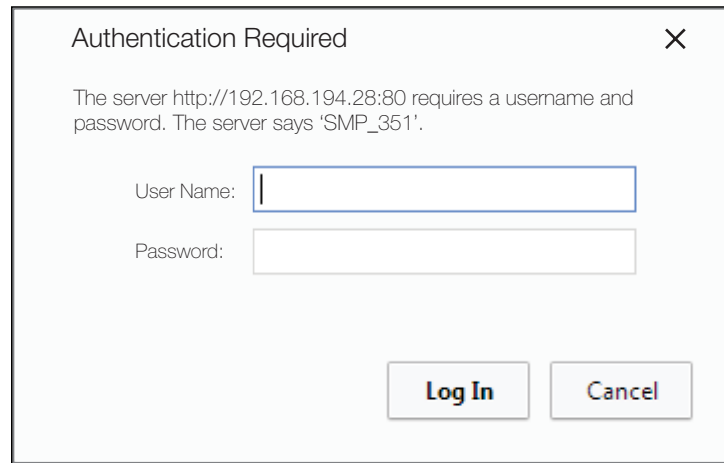
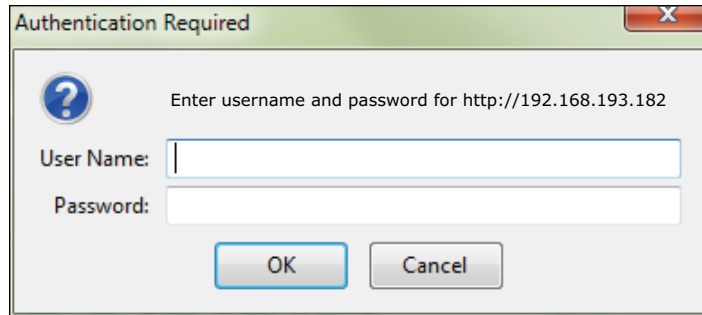
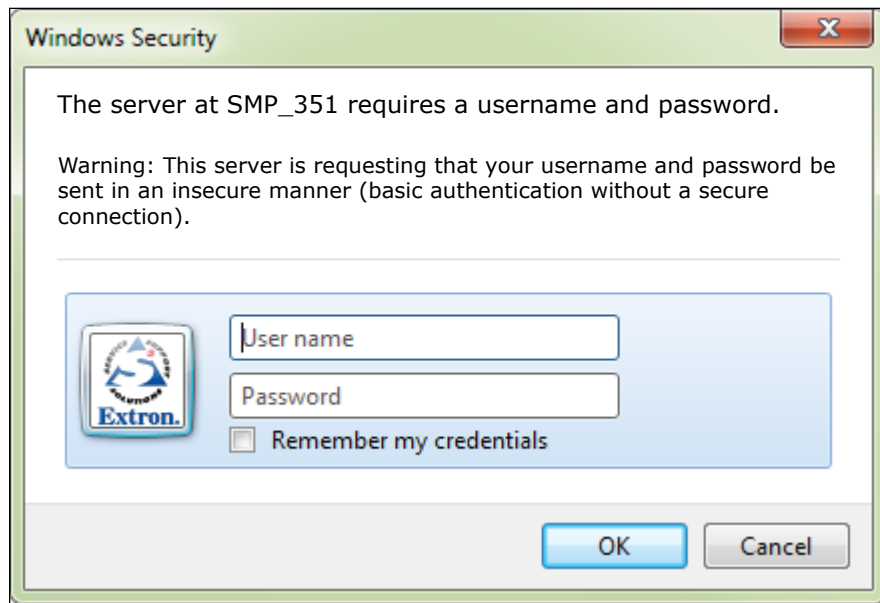

Figure 26. Chrome Authentication Dialog
Figure 27. Firefox Authentication Dialog
Figure 28. Windows Authentication Dialog
2. Enter the IP address of the SMP 351 into the address field and navigate to that unit. The **Authentication Required** dialog for Chrome (see figure 26), Firefox (see figure 27 on the next page), and **Windows Security** for Internet Explorer (see figure 28 on the next page) **Login** dialog box opens.